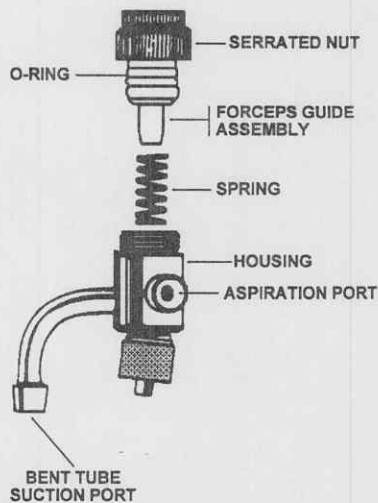

Figure 3-7. Automatic aspirator disassembly.
Refer to figure 3-7 for the next two steps.
- (4) Assemble the automatic aspirator housing, spring, and forceps guide assembly as illustrated in figure 3-7 and screw the serrated nut onto the housing.